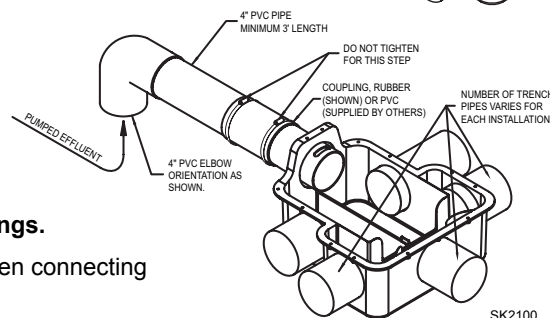

Figure 3.3
- 3.4) Installations in which the splitter system will be pumped to are required to have at least a 3' length of 4" PVC and a 4" elbow connected to the slotted pipe nipple. See Figure 3.3 for required positioning of elbow. This piping configuration will promote smooth uniform flow. The piping from the pump to the elbow should be sized based on the pump discharge. Use bushings/reducers as necessary to connect to the elbow.